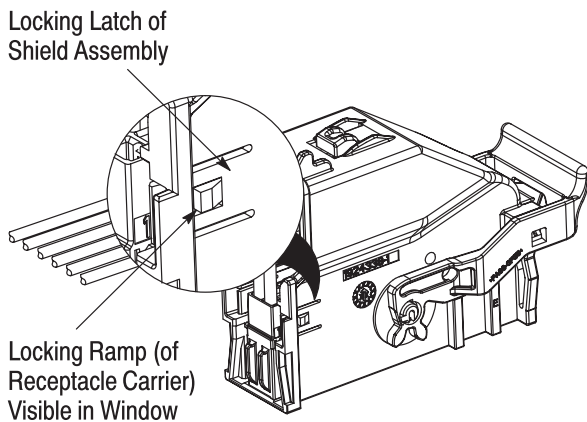

Figure 4
5. Continue pushing the receptacle carrier until the side locking latch (of the shield assembly) drops over the locking ramp of the receptacle carrier. The side locking latch should return to its non-deflected position and the locking ramp should be visible in the window of the side locking latch. See Figure 4.